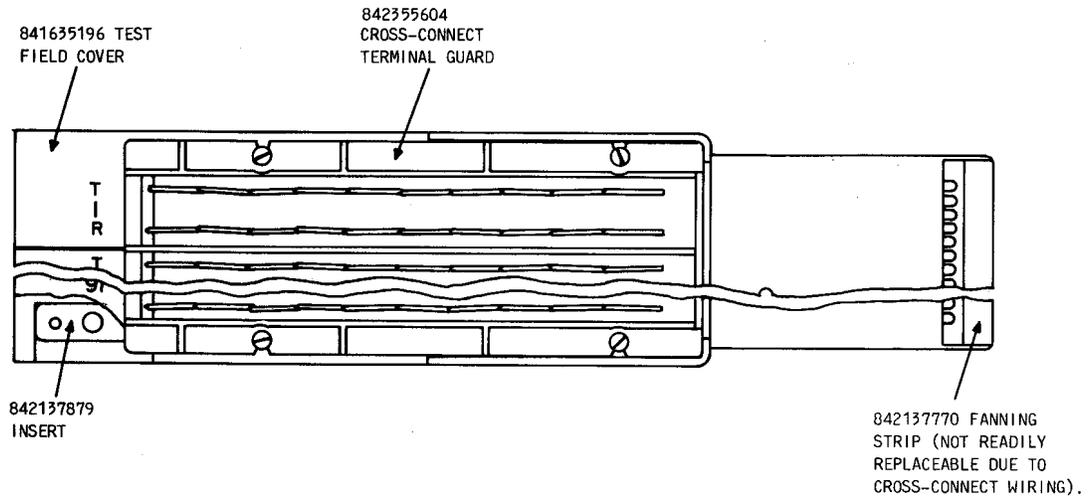

Fig. 7—305-Type Connector, Right Side
- (1) Remove and retain the two flathead screws on the outer edge of the connector.
- (2) Withdraw the test field cover from the connector, being careful that the 842355604 terminal guard is not damaged.
- (3) Insert the new test field cover in place with the rear edge under the terminal guard.
- (4) Insert the two flathead screws removed in Step (1) carefully so the threads in the block are not stripped.
6.02 842355604 Terminal Guard (Fig. 7):